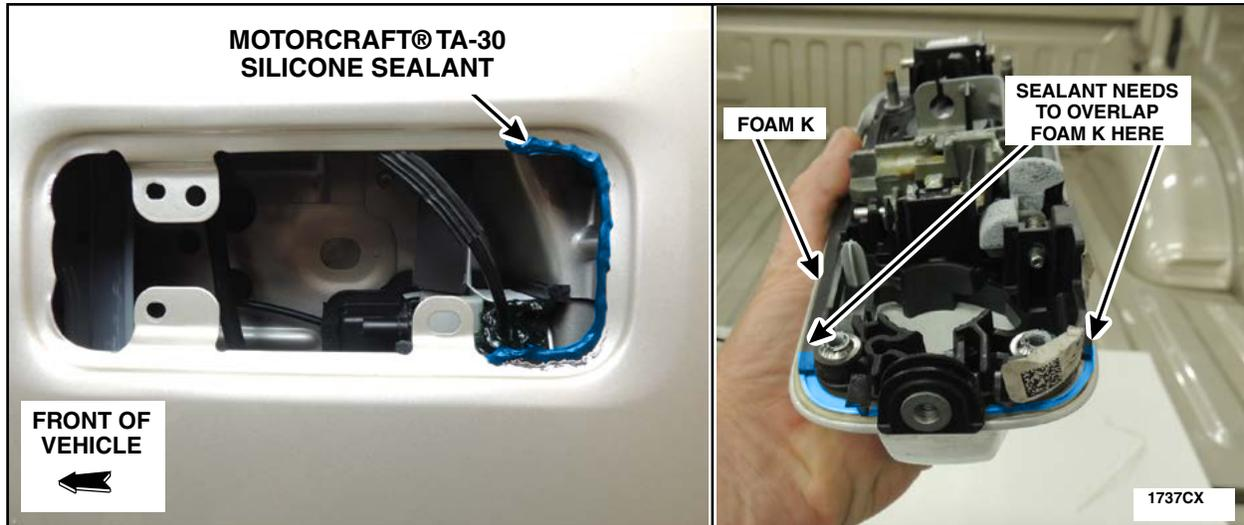

FIGURE 99
22. Apply a bead of Motorcraft® TA-30 silicone sealant to the rear vertical area of the rear door metal surface making sure that the sealant will overlap with the Foam K on the exterior door handle. See Figure 99.